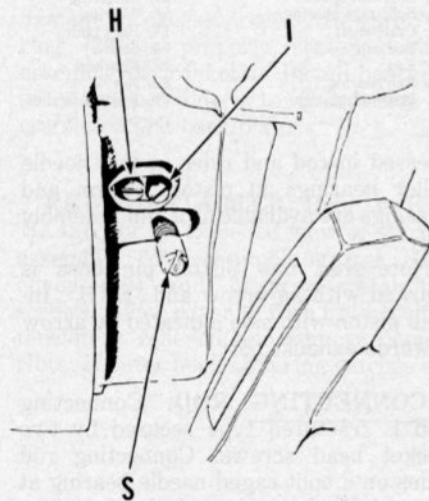

Fig. HL42-1 - View showing location of idle mixture screw (I), high speed mixture screw (H) and idle speed screw (S).
Before attempting carburetor adjustments, be sure pump is primed. Initial adjustment of idle and high speed mixture screws is one turn open. Adjust idle speed screw (S-Fig. HL42-1) so engine idles at 2600-3400 rpm. Adjust idle mixture screw (I) to obtain maximum idle speed, then readjust idle speed screw so engine idles as 2600-3400 rpm.